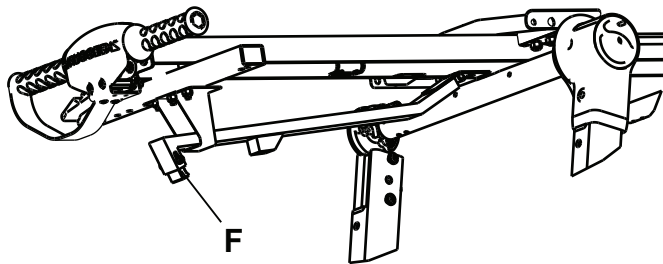

Figure 12 – Hook tip adjustment
2. Test unloading the cot from a vehicle to confirm that the safety hook connects with the catch plate. Using an M5 Allen key, adjust the hook tip (F), as needed, to make sure that the safety hook and catch plate connect while unloading (Figure 12).